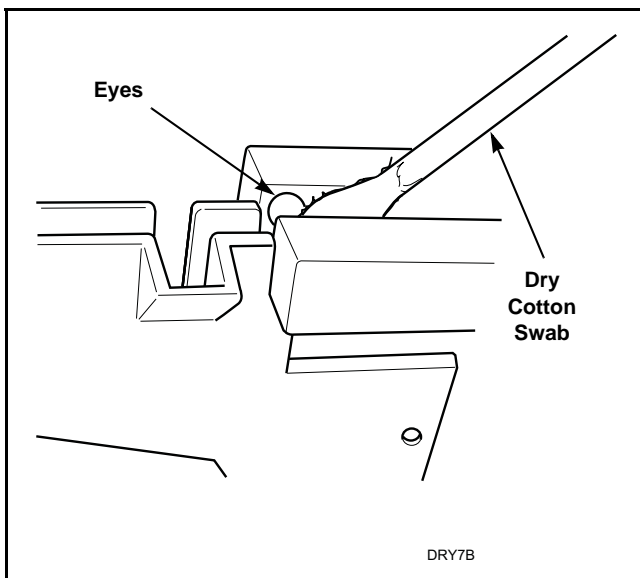

Figure 8
- Check coin drop sensor for dust or dirt on eyes. Wipe eyes with dry cotton swab. Refer to *Figure 8*.